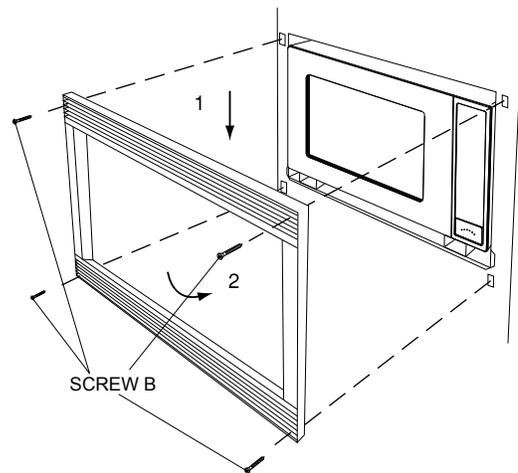

Figure 5
- Position the FRAME ASSEMBLY to be square with the oven. Carefully place the FRAME ASSEMBLY on the oven. Check that it is level and then secure with two SCREWS B. See Figure 5.
- Secure the bottom of the FRAME ASSEMBLY with the two remaining SCREWS B. See Figure 5.